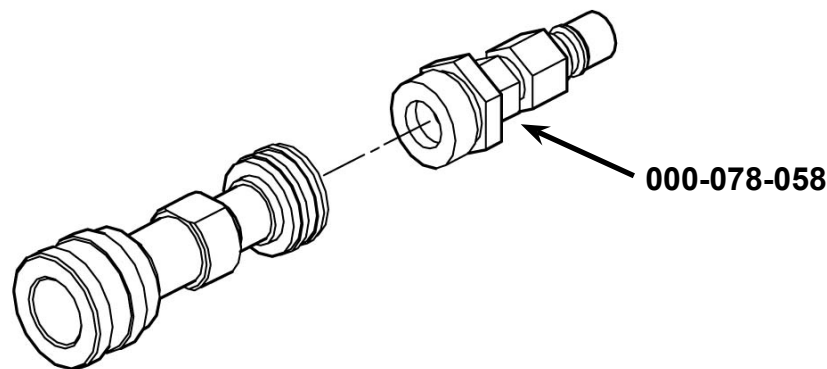

Figure 19. Recirculation Fitting
Attach the recirculation fitting provided in the kit to the garden hose quick connect (see Figure 19) and this combination to the front of the truckmount.
3. Attach a recirculation fitting (see the previous page and Figure 19) to the incoming water quick connect on the front of the machine.